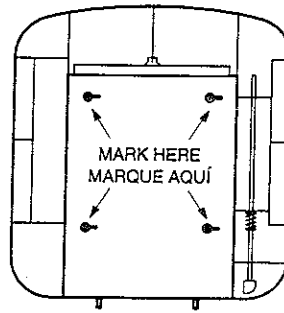
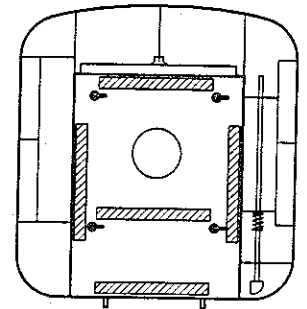

Figure 3
Figure 4
2. With the door of the dispenser open, mark the stall wall at the four (4) mounting slots as shown in Figure 3.
3. Drill four (4) 3/16" diameter pilot holes at the marked locations.
5. Mount the dispenser onto the four (4) screws and insure it fits properly. Adjust as required.
6. Remove the dispenser and position the double back tape on the back side of the dispenser as shown in Figure 4.
7. Remove the tape liner and reposition the dispenser on the four (4) screws. Push the dispenser until it seats firmly against the wall.
8. Drive the four (4) screws flush.